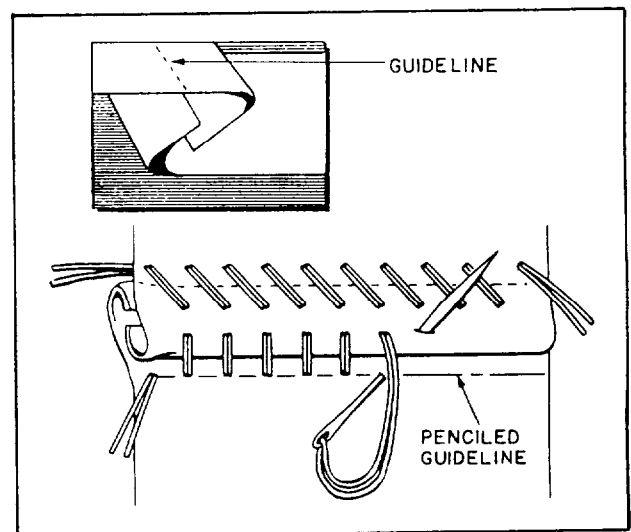

Figure 3-35.—Flat stitch.
- **Flat stitch:** A flat stitch is used when a strong seam is required, as on a paulin or a sail. Pencil a guideline 1 1/2 or 2 inches from the edge of each strip of canvas, depending on how wide you want the seam. Crease each piece on a line slightly less than halfway to the guideline. Make the folds away from the guidelines and interlock the folds away from the guidelines and interlock the folds (fig. 3-35). Interlocking the edges forms a watertight seam and keeps a ragged edge from showing. Insert the needle at the guideline, and stitch diagonally so that stitches appear at right angles to the seam on top but run at an angle on the reverse side. After completing one edge, turn the canvas over and sew the other edge of the seam. Flat stitching also is used for patching.